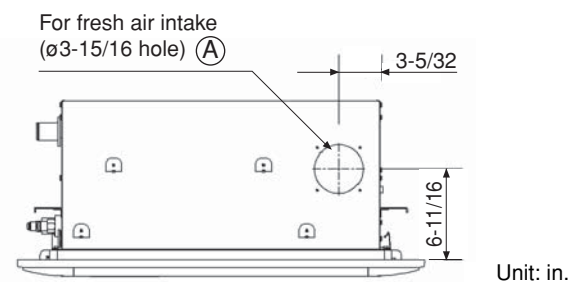

Fig. 3-34
If the system requires fresh air to be drawn into the unit, cut and remove the insulation (both externally and internally) at the location shown as (A) in Figs. 3-34 and 3-35.